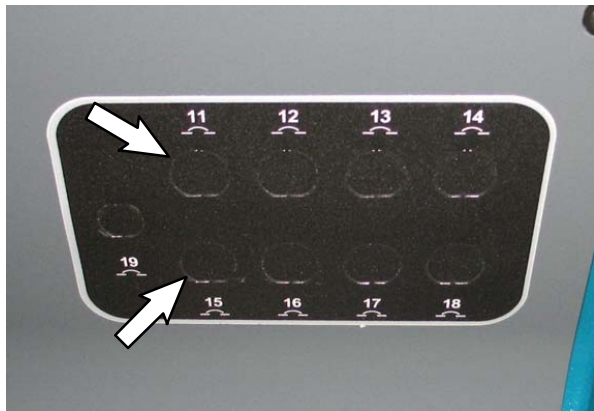

FIG. 14
26. Remove the blanks from the CB15 and CB11 locations on the electrical panel. (Fig. 14)